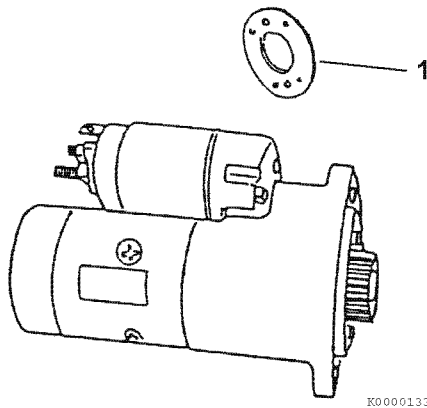

Figure 11-34
- If the measured L dimension is outside the standard range, adjust the dust covers to obtain the standard range. Dust covers (Figure 11-34, (1)) are available in 0.020 in. (0.5 mm) and 0.031 in. (0.8 mm) thicknesses.